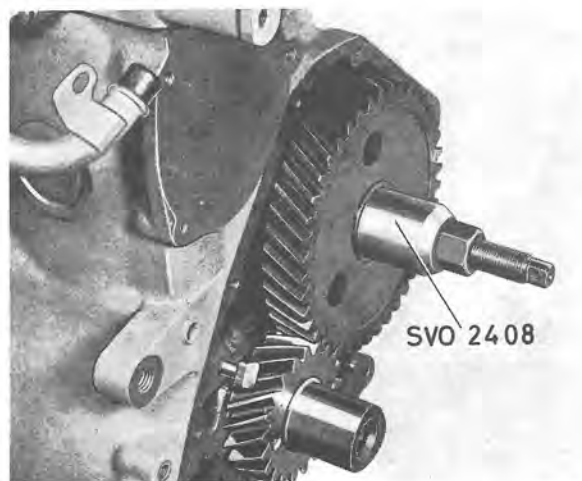
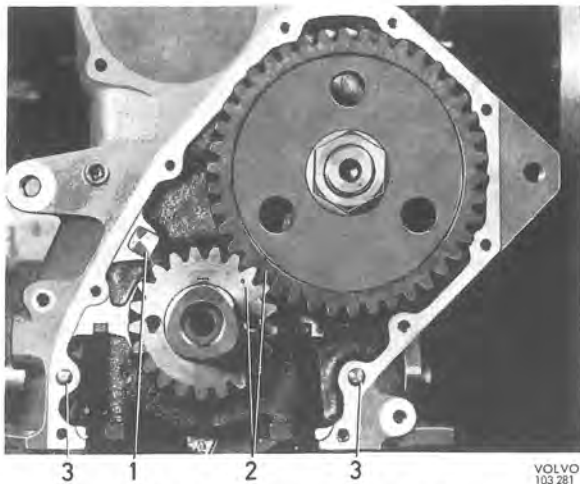

Fig. 2-43. Fitting camshaft gear
Fig. 2-44. Markings on timing gears
7. Re-fit the camshaft gear with tool SVO 2408, see Fig. 2-43. Both gear wheels should take up the correct position relative to each other, see Fig. 2-44. When the timing gear drive markings are opposite each other, then the piston for No. 6 cylinder is at top dead center, firing position. Do not press the camshaft backwards so that the sealing washer at the rear end loosens. Fit the nut and tighten it to a torque of 13—15 kpm (94—108 lbft). The measuring values for the tooth flank clearance and the camshaft axle clearance, which is deter-